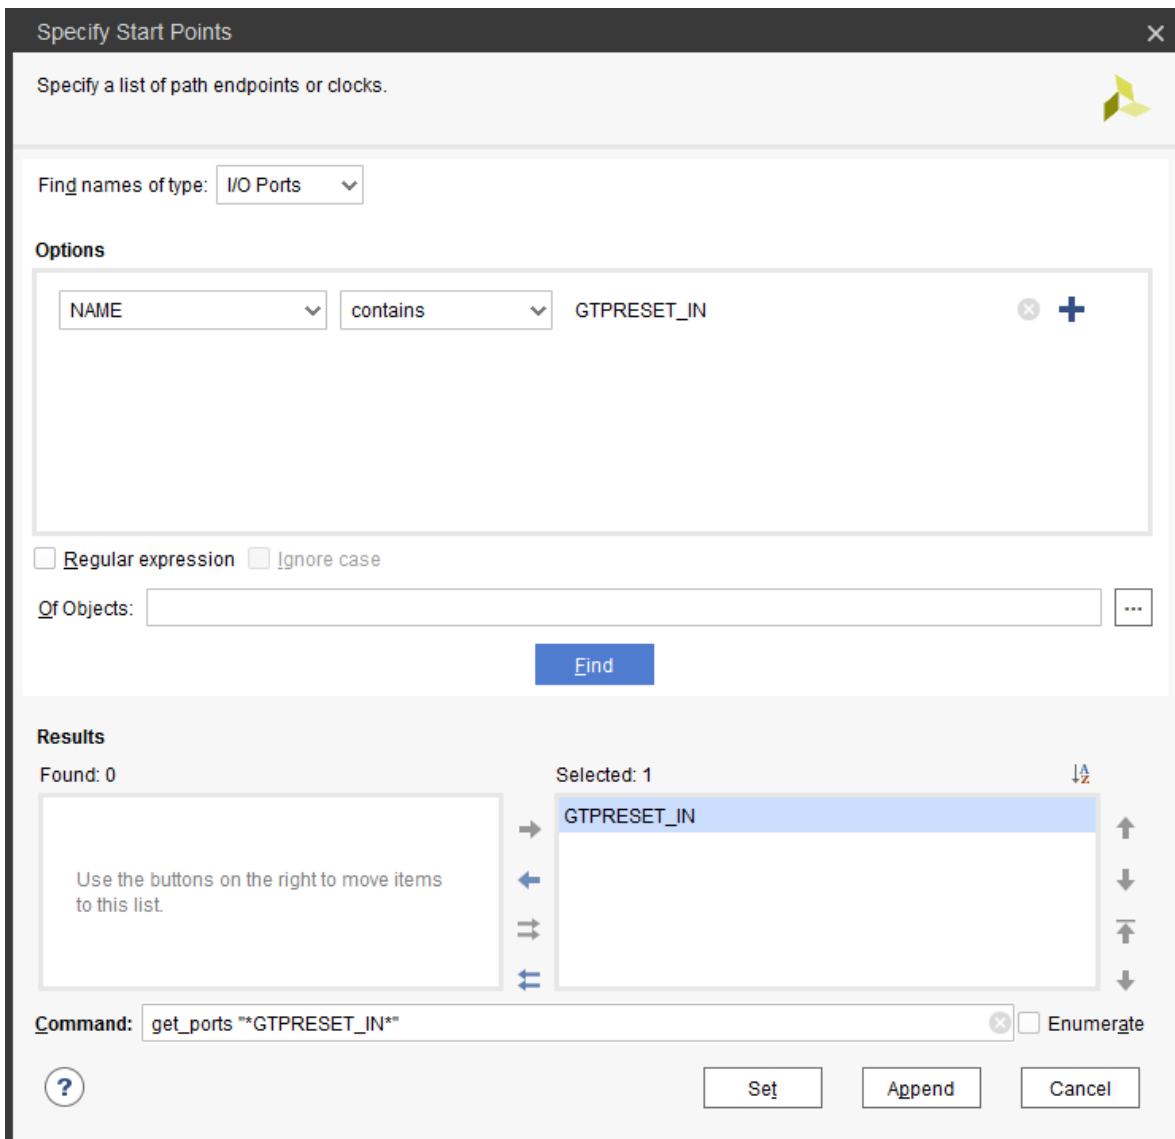

Figure 18: Choose Start Points Window for `set_false_path` Dialog Box
5. From the **Find names of type** drop-down list, select **I/O Ports** as shown in Figure 18, page 26.